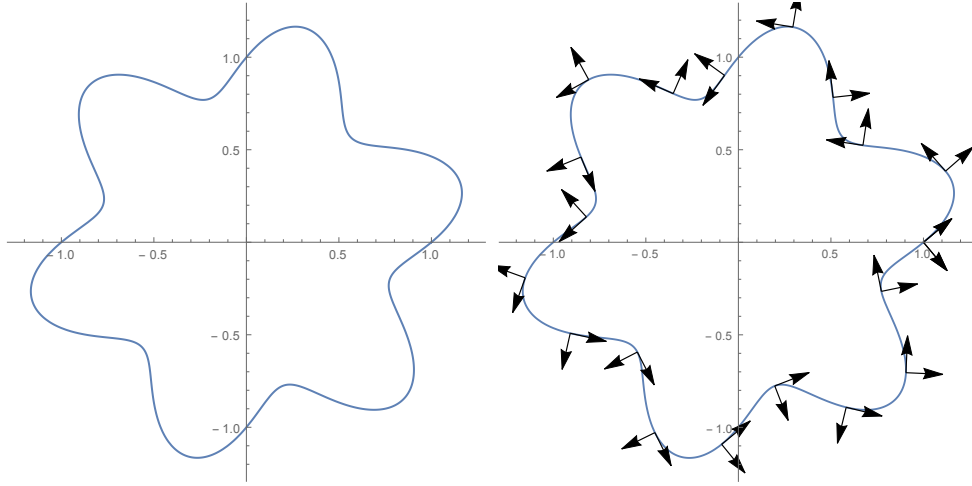

Figure 2: Left: Desired end effector path, Right: Desired end effector frame poses.
corresponding to the path shown in the left plot of Figure 2.
(Hint: You will first need to find an expression for the vector normal to the curve at any point. Remember that the tangent to a curve can be found by taking the derivative of its defining equation with respect to the parameter γ . If you align the y axis of E with this tangent, the x axis will be normal to the curve. Be careful about the direction though). The right plot in Figure 2 illustrates the desired frame poses.
7. If $a_2 = 0.5m$ and $a_3 = 0.2m$, what is the minimum value for a_1 such that the resulting robot can still follow the path in Figure 2? How did you find this minimum? Discuss your findings.